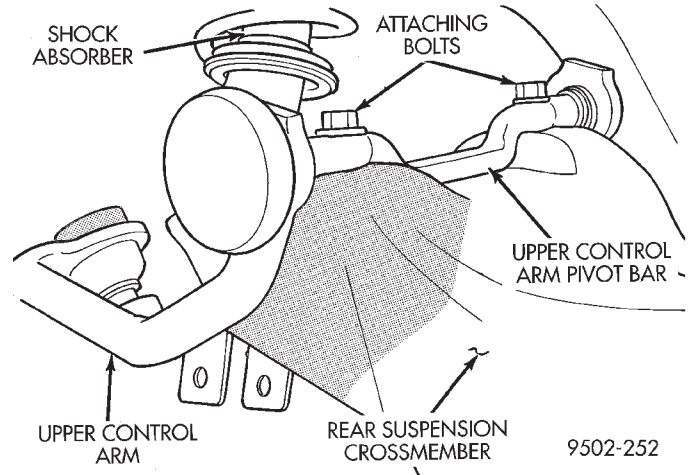

Fig. 8 Upper Control Arm Attachment To Crossmember
(10) Lower the rear suspension crossmember enough to access the upper control arm pivot bar to crossmember attaching bolts (Fig. 8). Remove the 4 bolts attaching the upper control arms to the suspension crossmember. Remove the control arms from the crossmember.
(11) Lower the rear suspension crossmember, lateral arms and stabilizer bar as far as possible using the transmission jack. Then with the aid of a helper remove rear suspension crossmember from the vehicle.
(1) Install the rear suspension crossmember, lateral arms and rear stabilizer bar back into the vehicle as an assembly.
(2) With the aid of a helper position rear suspension crossmember back in vehicle and support it using the transmission jack.
(3) Align the upper control arm pivot bars with the mounting holes in the rear suspension crossmember. Install and tighten the 4 pivot bar to crossmember attaching bolts (Fig. 8) to a torque of 107 N·m (80 ft. lbs.).
(4) Using transmission jack, raise rear suspension crossmember up to the rear frame rails and loosely install the 4 attaching bolts.